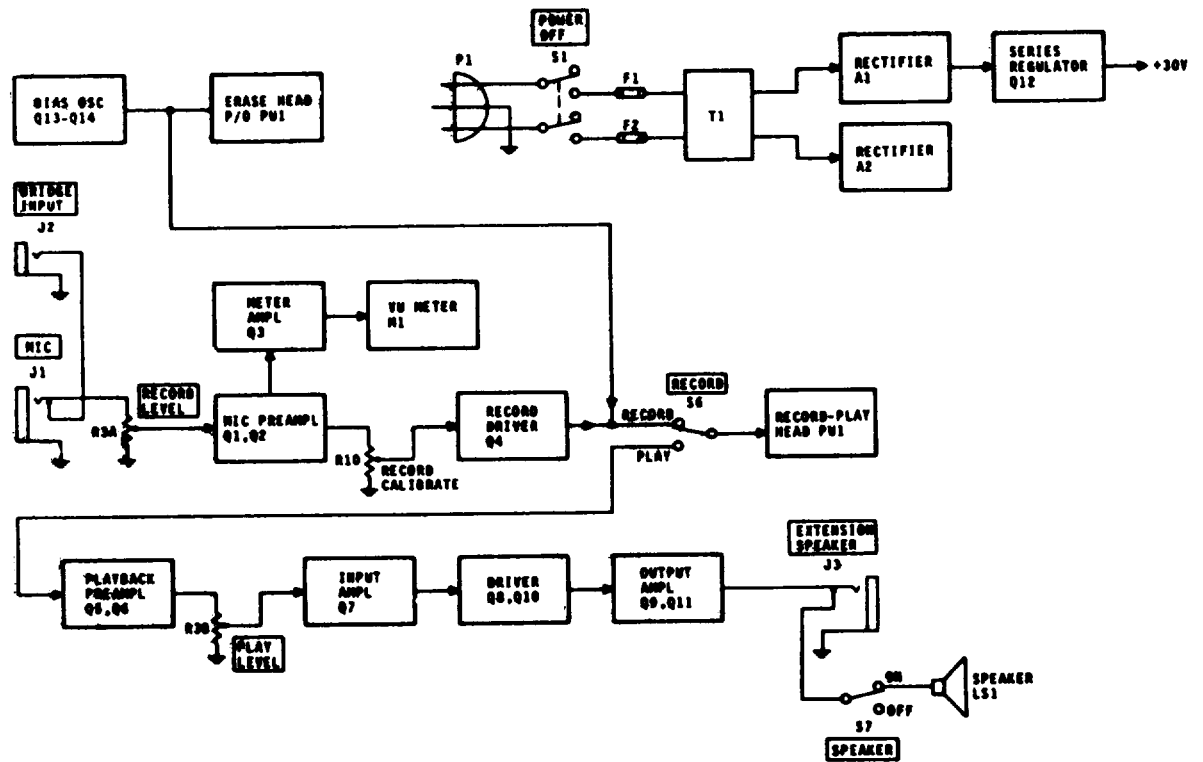
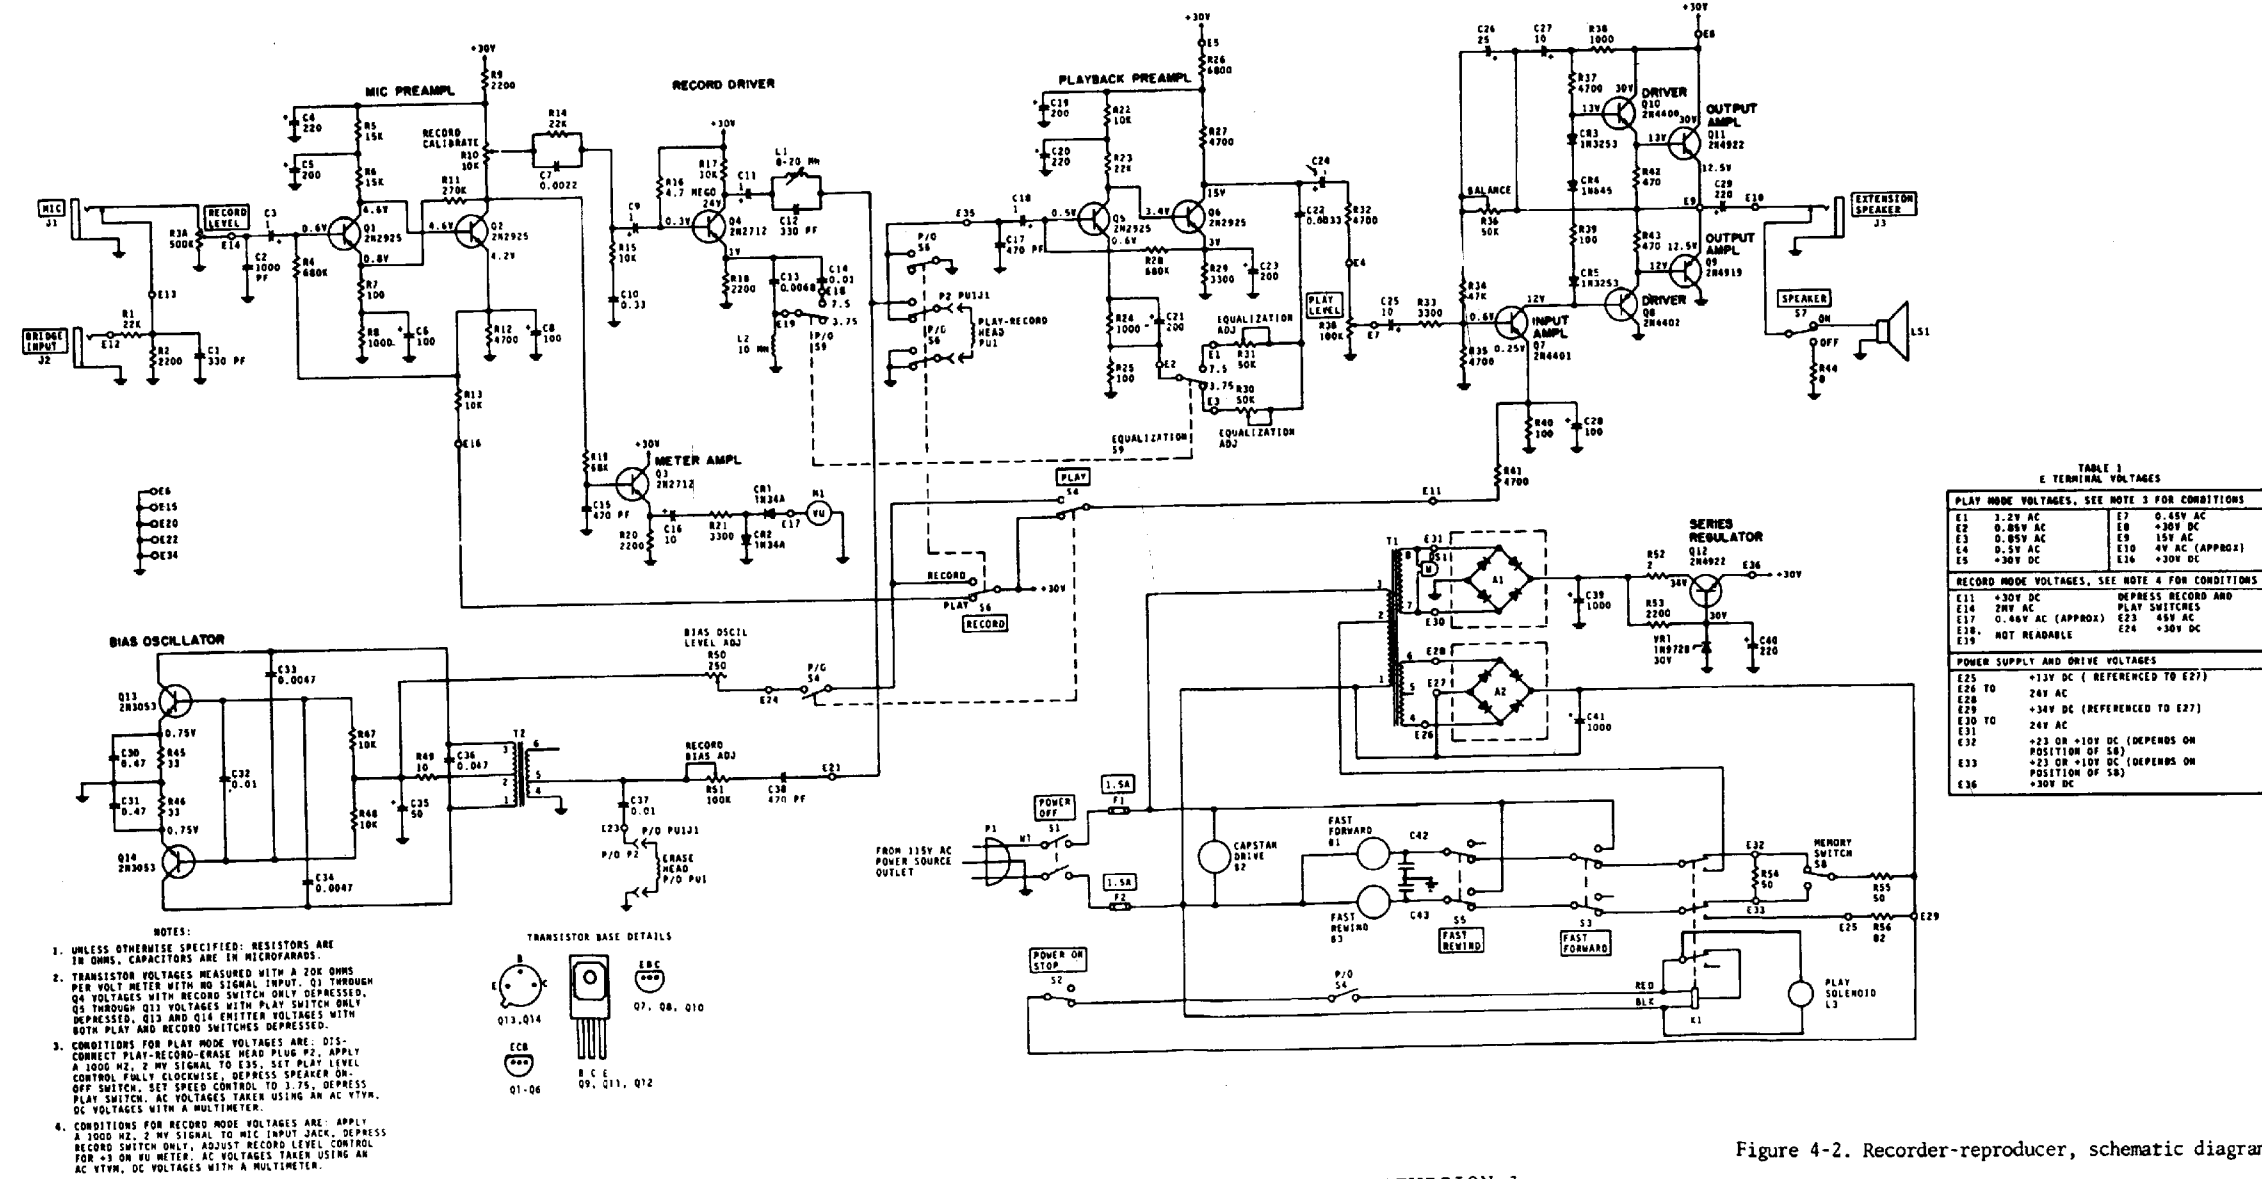

Figure 4-1. Recorder-Reproducer, Block Diagram
Figure 4-2. Recorder-reproducer, schematic diagram
a. Refer to the block diagram, figure 4-1, and to the schematic diagram, figure 4-2. The record circuits contain two input jacks, one for a microphone and one for a high impedance (bridging) input which can be connected across a low impedance source (such as a loudspeaker coil) with negligible loading effects. When the microphone jack is used, contacts of the jack open the bridging input.
a. Refer to block diagram, figure 4-1 and schematic diagram, figure 4-2. Bias oscillator Q13, Q14 produces a supersonic current at a frequency of about 80 kHz. This bias current is used in the erase head to erase the tape before recording and in the record head
a. Refer to block diagram, figure 4-1, and schematic diagram, figure 4-2. In playback operation, magnetic fields caused by the tape moving past the play head induce audio signals in the head. These signals are coupled through contacts of RECORD switch S6 (in the play position) and C18 to the base of playback preamplifier Q5, Q6. The amplifier uses two direct coupled amplifiers. Dc degenerative feedback from the output to the input is provided by R28 to stabilize the amplifier and improve linearity. Additional dc degeneration is provided by C21 and R24 (for Q5) and R29 and C23 (for Q6). R30, R31, and C22 form an equalization network to provide high frequency boost. Signals from the collector of Q6 are coupled through C22 and either R30 or R31 to R25 in the emitter of Q5. The signals are in phase and increase the gain at high frequencies, when the reactance of C22 decreases. R30 is selected for tape speeds of 3.75 inches per second and R31 for 7.5 inches per second by contacts of S9. The feedback is adjusted using R30 and R31 to obtain "flat" response.